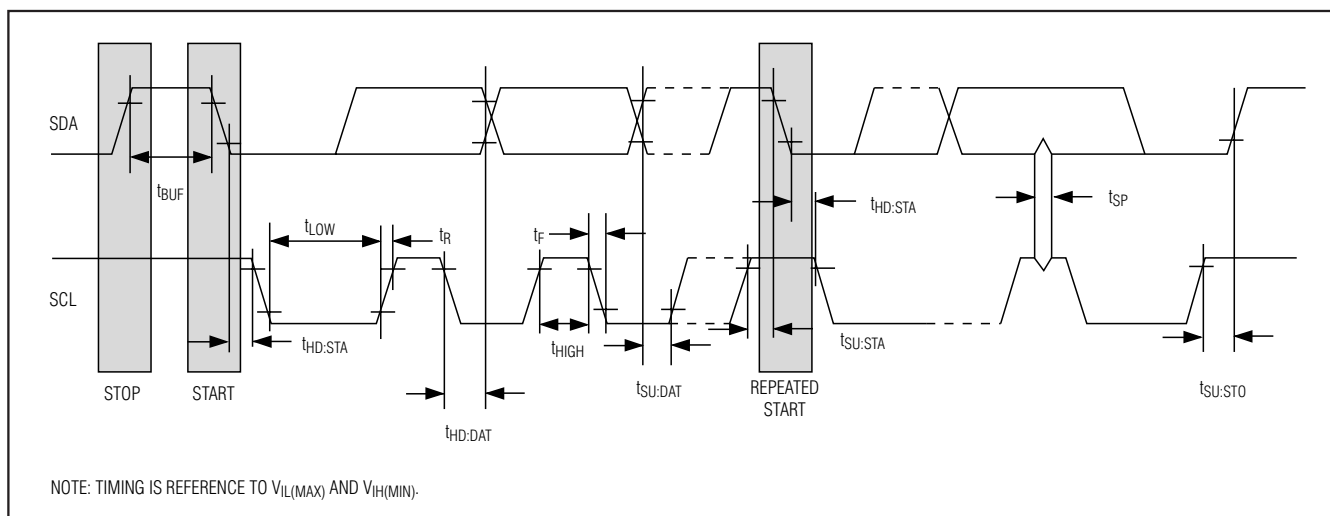

Figure 3. I2C Timing Diagram
**START Condition:** A START condition is generated by the master to initiate a new data transfer with a slave. Transitioning SDA from high to low while SCL remains high generates a START condition. See Figure 3 for applicable timing.
**STOP Condition:** A STOP condition is generated by the master to end a data transfer with a slave. Transitioning SDA from low to high while SCL remains high generates a STOP condition. See Figure 3 for applicable timing.
**Repeated START Condition:** The master can use a repeated START condition at the end of one data transfer to indicate that it will immediately initiate a new data transfer following the current one. Repeated starts are commonly used during read operations to identify a specific memory address to begin a data transfer. A repeated START condition is issued identically to a normal START condition. See Figure 3 for applicable timing.
**Bit Write:** Transitions of SDA must occur during the low state of SCL. The data on SDA must remain valid and unchanged during the entire high pulse of SCL, plus the setup and hold time requirements (Figure 3). Data is shifted into the device during the rising edge of the SCL.
**Bit Read:** At the end of a write operation, the master must release the SDA bus line for the proper amount of setup time (Figure 3) before the next rising edge of SCL during a bit read. The device shifts out each bit of data on SDA at the falling edge of the previous SCL pulse and the data bit is valid at the rising edge of the current SCL pulse. Remember that the master generates all SCL clock pulses, including when it is reading bits from the slave.